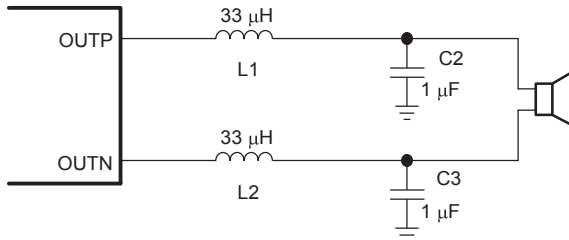
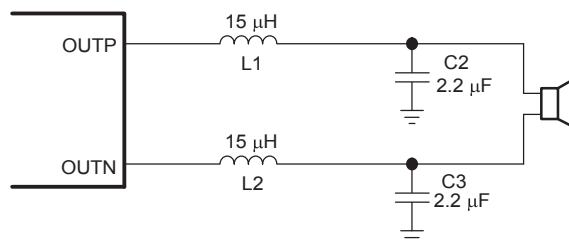

Figure 41. Typical LC Output Filter, Cutoff Frequency of 27 kHz, Speaker Impedance = 8 Ω
Figure 42. Typical LC Output Filter, Cutoff Frequency of 27 kHz, Speaker Impedance = 4 Ω
- Output filter—The ferrite EMI filter (Figure 43) should be placed as close to the output terminals as possible for the best EMI performance. The LC filter (Figure 41 and Figure 42) should be placed close to the outputs. The capacitors used in both the ferrite and LC filters should be grounded to power ground.